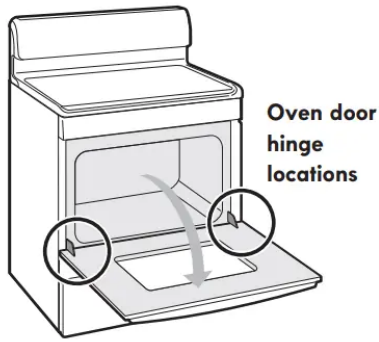

Figure 21: Door hinge location
1. Open oven door completely (horizontal with floor (See Figure 21)
3. Fully open the oven door, horizontal with floor (See Figure 21).